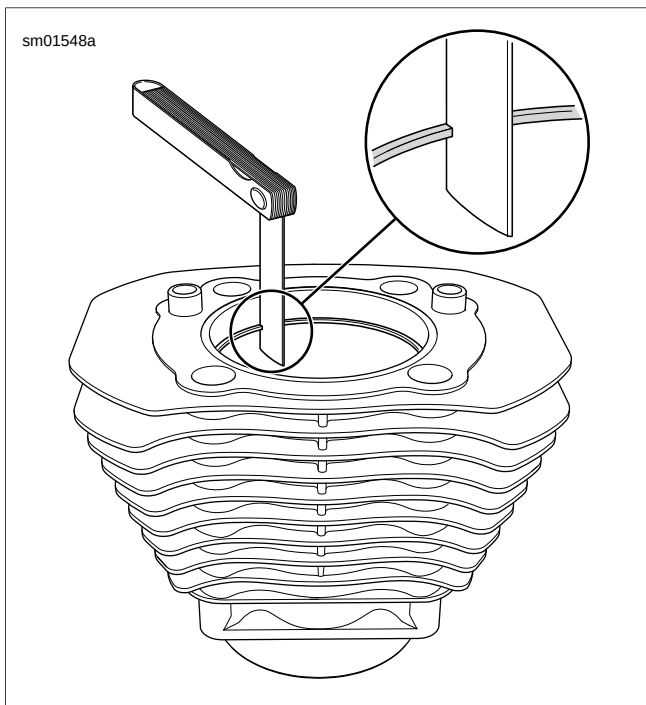

Figure 3-77. Measuring Ring End Gap
- See Figure 3-77. Place piston in cylinder about 1/2 in (13 mm) from top. Set ring to be checked inside cylinder, squarely against piston. Remove piston and check ring end gap with thickness gauge. See 3.2 SPECIFICATIONS.